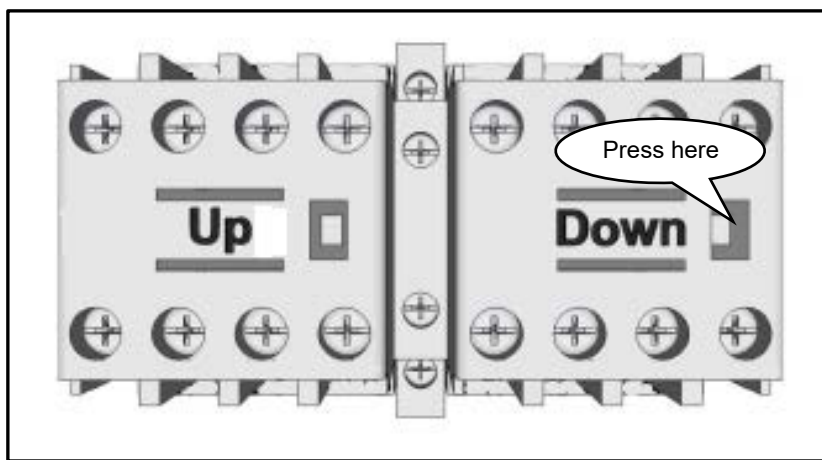

Figure 15
- 2** To check the motor rotation, open the control box and locate the Down “D” and Up “U” contactor. (see **Figure 15**)